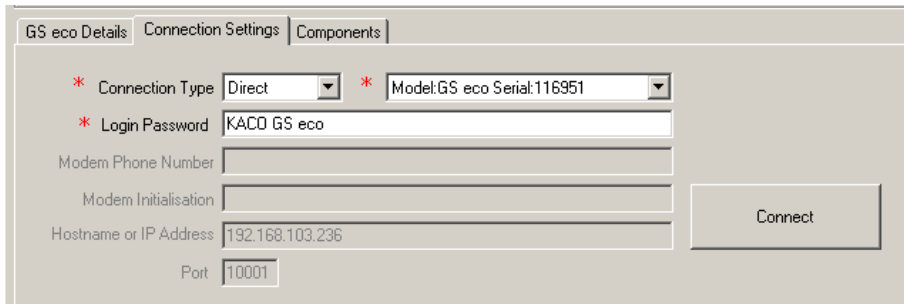

Figure 4. Connection settings for USB communication
6. Use the "Connect" button or the "Connection" – "Connect" menu to connect to the device (see Figure 4).